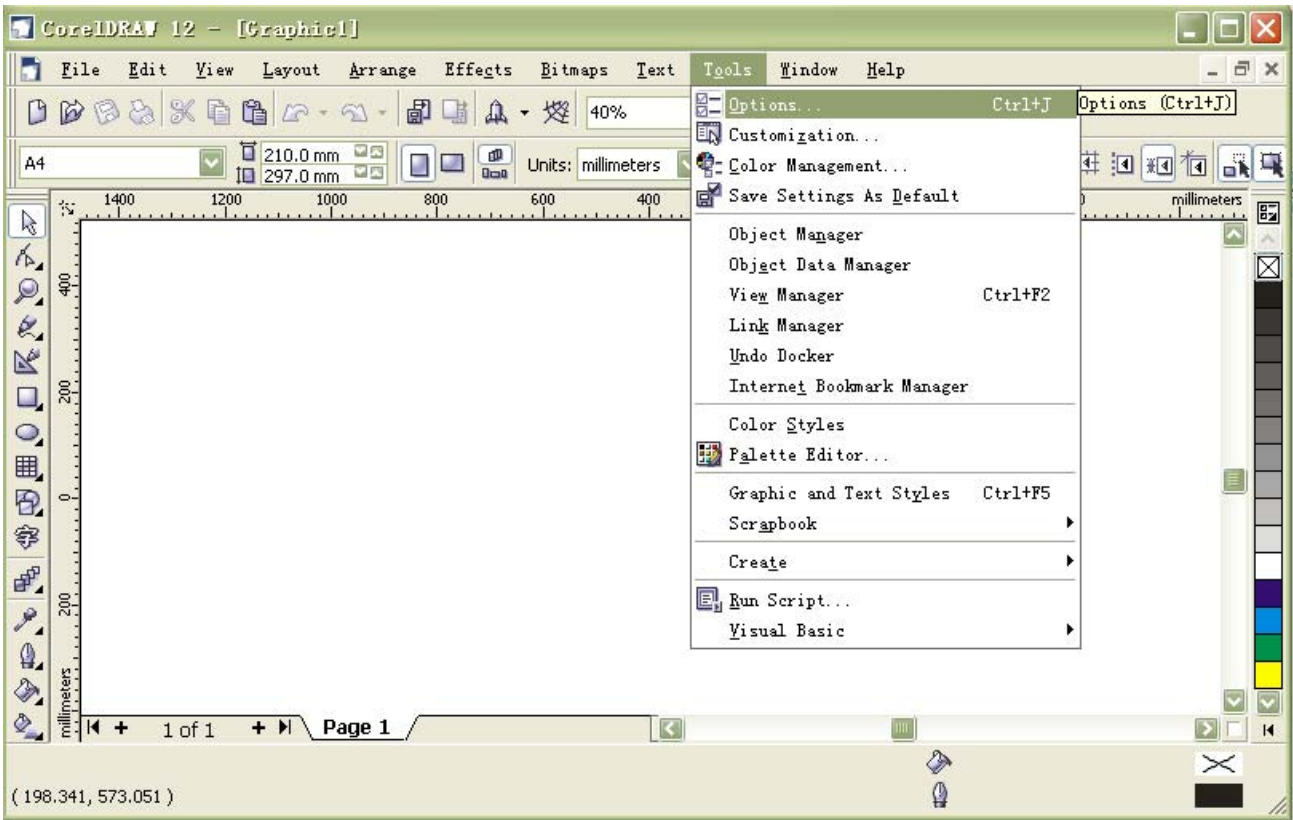
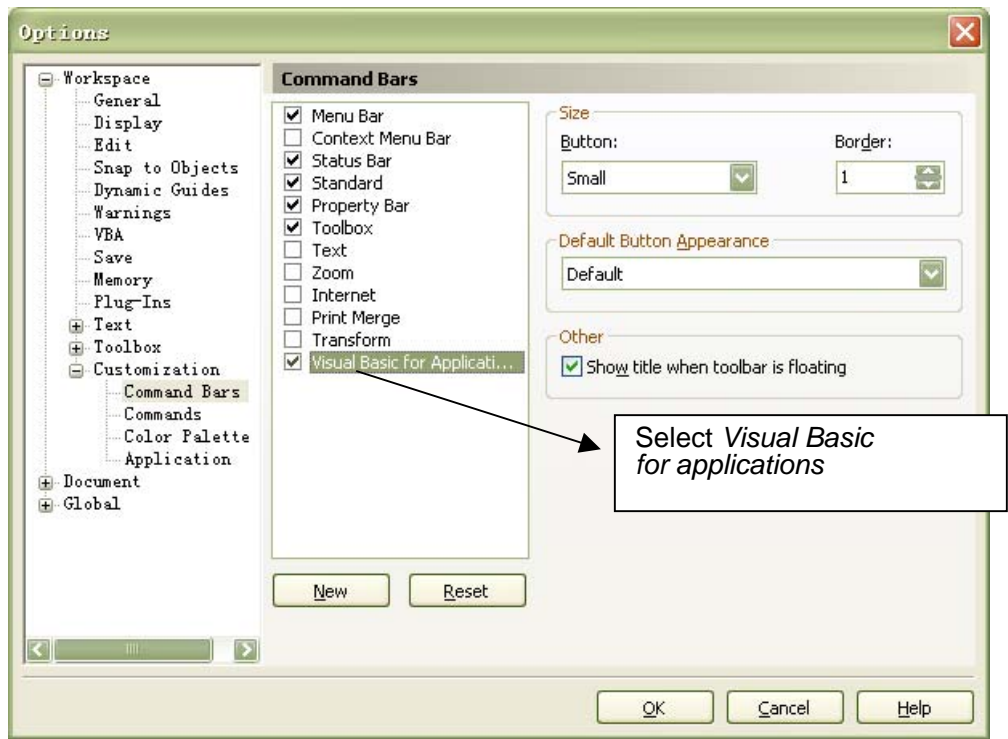
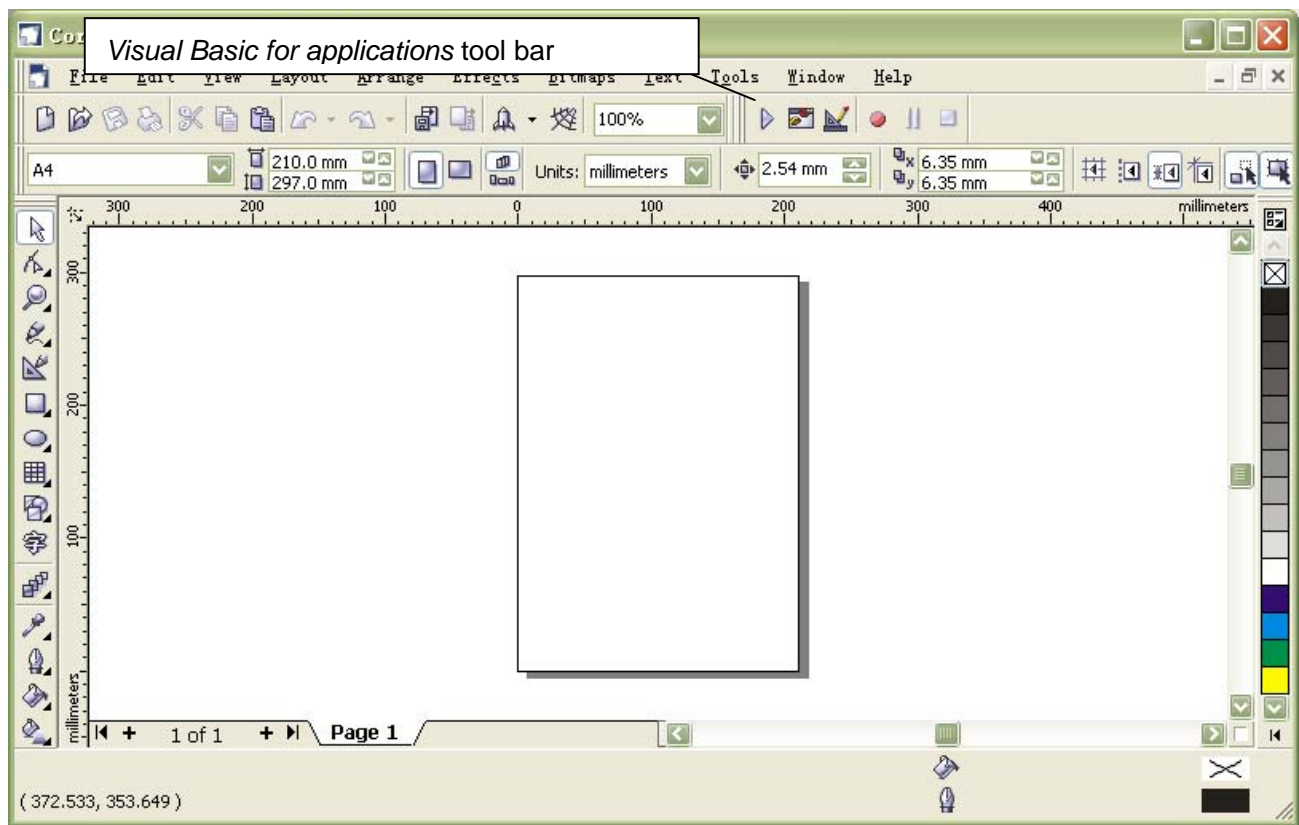

Figure 1-1
Figure 1-2
Figure 1-3
(1) As shown in figure 1-1, enter the main menu of CorelDraw, choose CorelDraw menu, tools->options, a menu As shown in figure 1-2 will pop up:
(2)As shown in figure 1-2, select *Visual Basic for applications*, then click on *Ok* button. Now the main menu of CorelDraw is shown in figure 1-3: